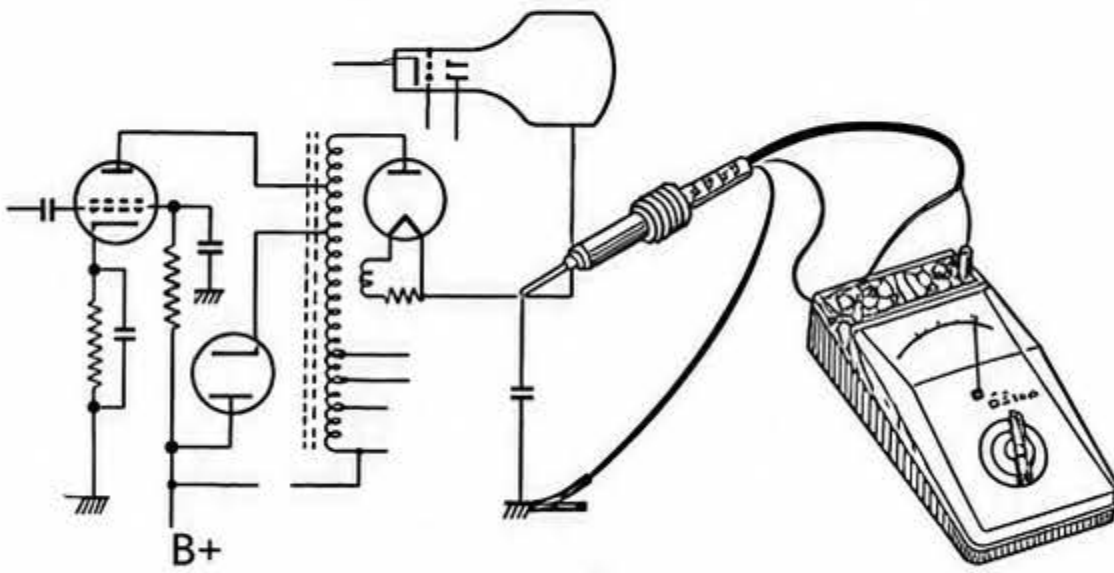

Fig. 1
3) High Voltage See Fig. 1 and 2